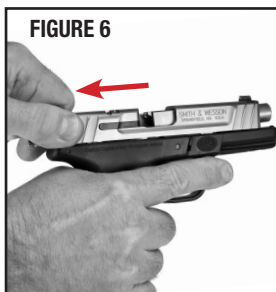

FIGURE 6
- Point the muzzle in a safe direction, grasp the serrated sides of the slide from the rear with the thumb and fingers (FIGURE 6) and briskly draw the slide fully rearward in order to extract any cartridge from the barrel chamber and clear it from the pistol. Do not obstruct the ejection port because doing so can interfere with ejection of a cartridge.